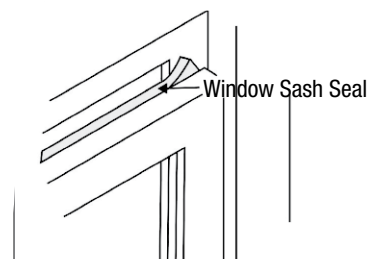

**FIG. 18B**
2. Use  $\frac{1}{8}$ " drill bit to drill a starter hole through the hole in the top leg of each accordion panel and into the window sash. (Fig. 18A and Fig. 18B) Connect with one  $\frac{3}{4}$ " (or  $\frac{1}{2}$ ") long hex head screw.